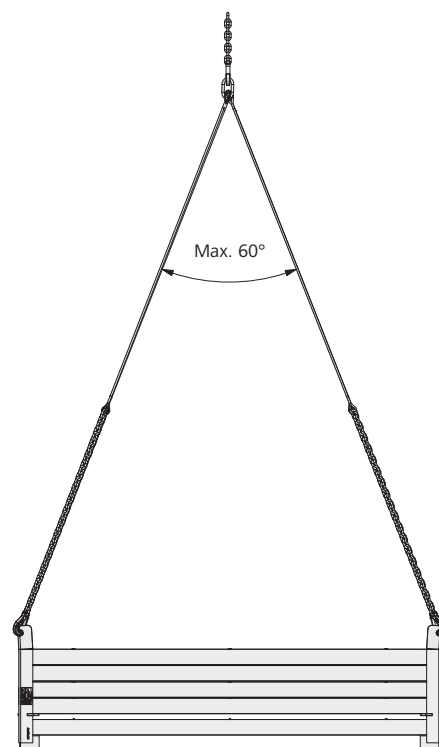

Fig. 75.4
- The opening angle of the crane sling must not exceed 60° (Fig. 75.4).